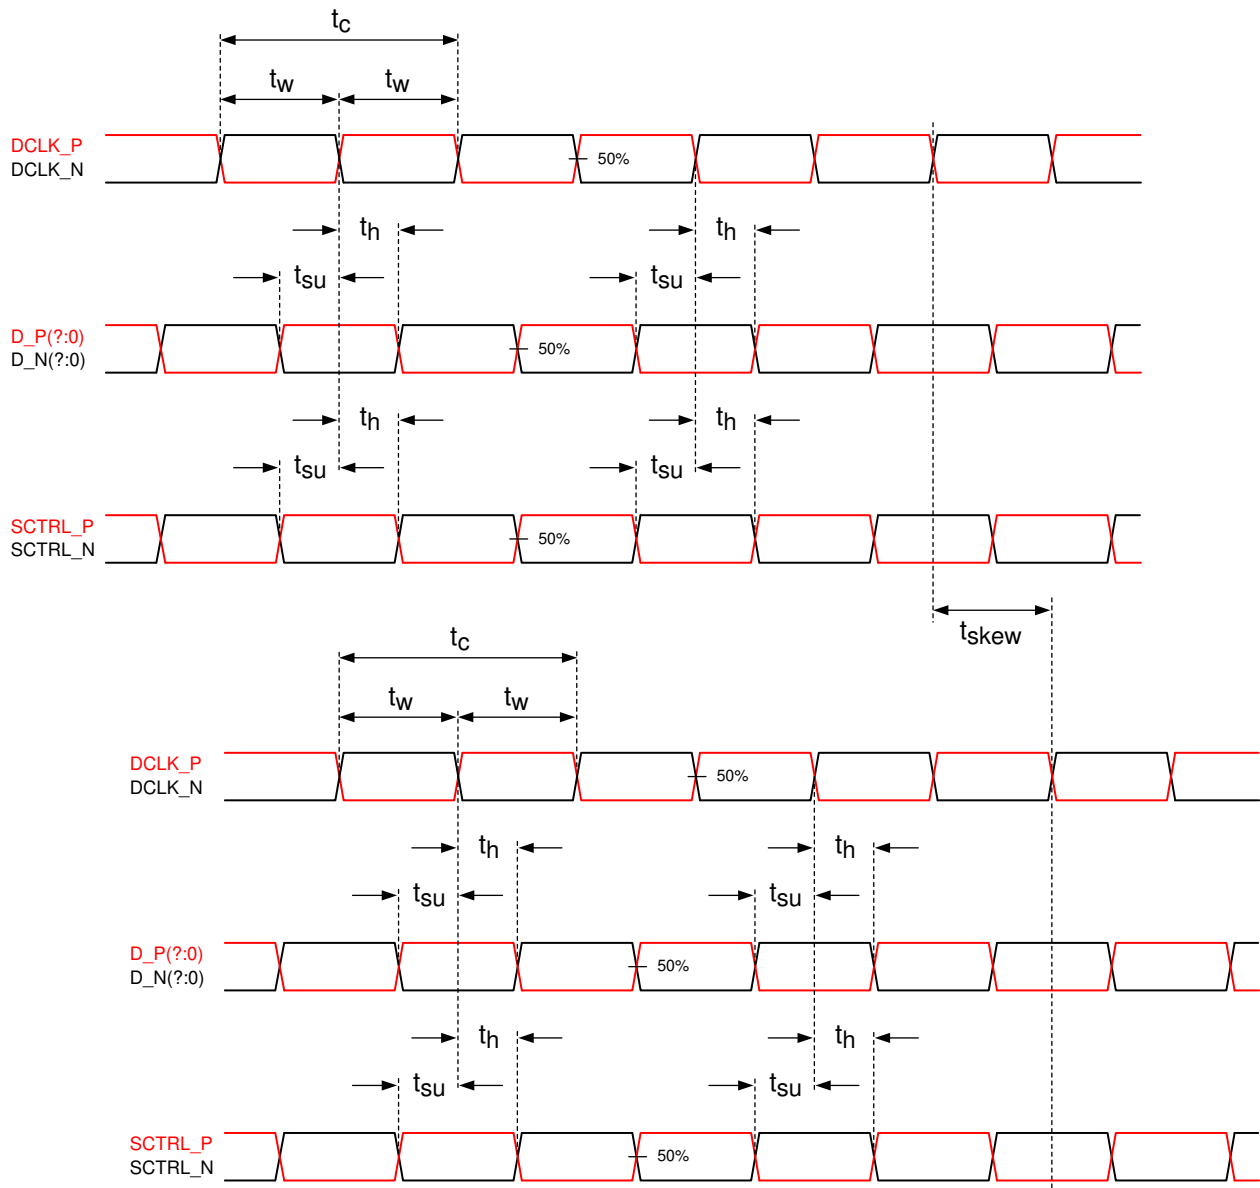

Figure 6-6. Timing Requirements
- (9) See LVDS Timing Requirements in Timing Requirements and Figure 6-6.